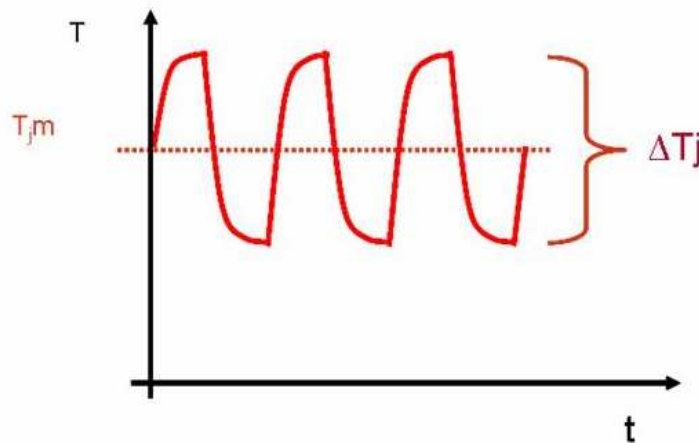

Fig.9 Example of T_{jm} and ΔT_j
Fig.9 shows the experimental results of the LESIT study (as bullet points) as well as the results of equation (3) as drawn lines.